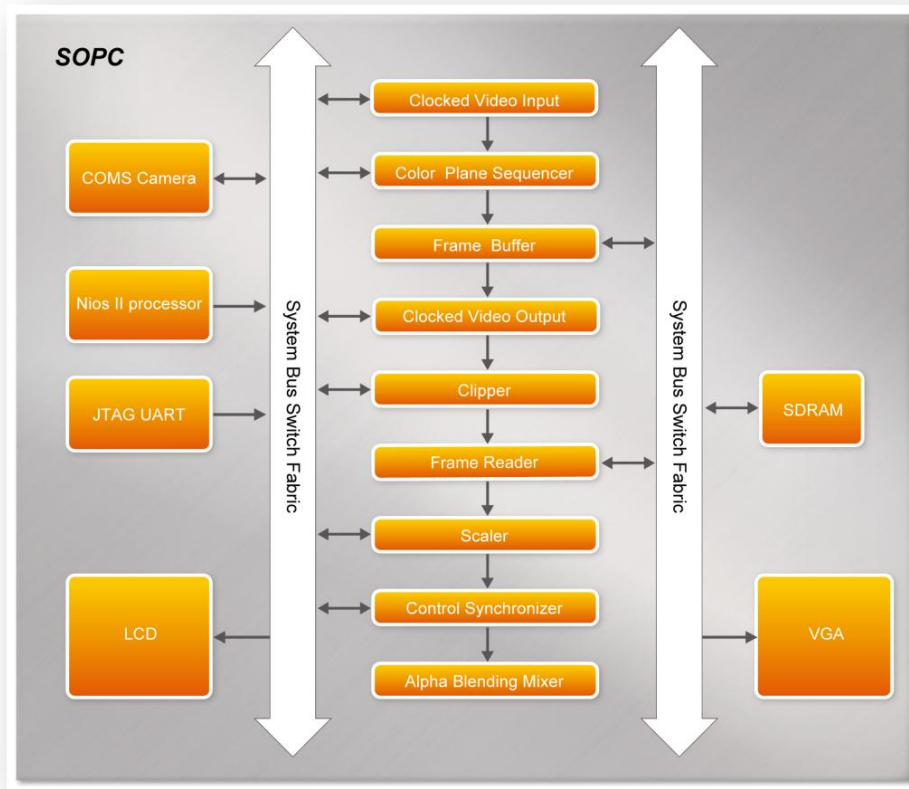

Figure 4-14 VIP Camera Example SOPC Block Diagram (Key Components)
**Figure 4-14** shows the Video and Image Processing block diagram.